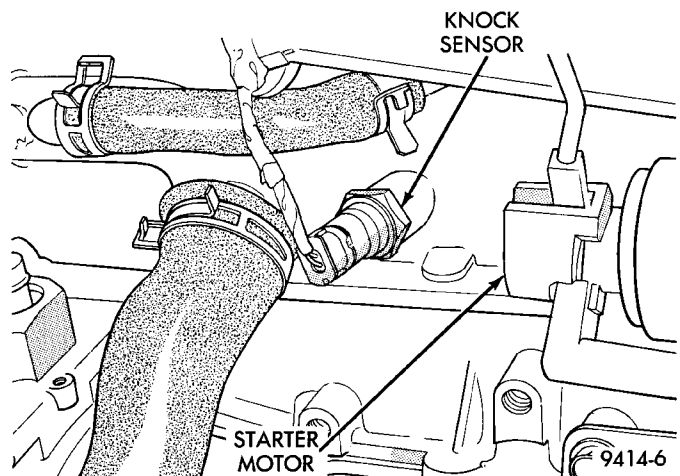

Fig. 16 Knock Sensor
(14) Disconnect knock sensor electrical connector (Fig. 16) and disconnect wiring harness from tab located on the intake manifold.
(15) Disconnect wiring at starter.
(16) Remove transmission to throttle body support bracket fasteners at the throttle body and loosen the fastener at the transmission end.
(17) Remove throttle body.